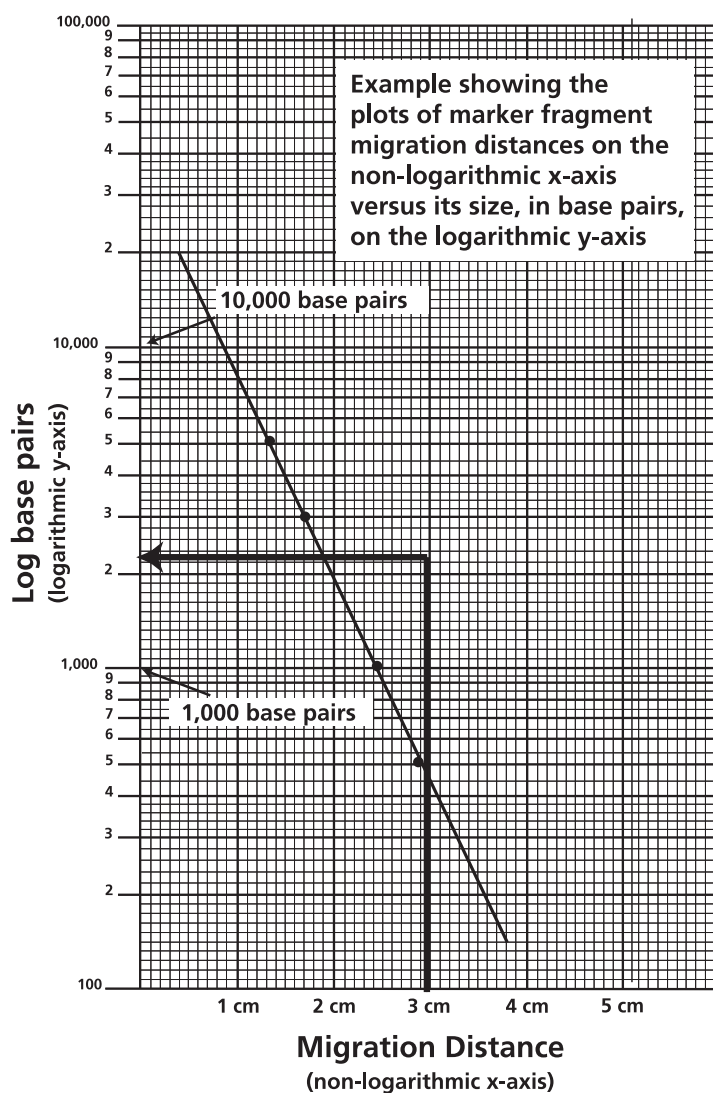

Figure 9:
After all the points have been plotted, use a ruler or a straight edge to draw the best straight line possible through the points. The line should have approximately equal numbers of points scattered on each side of the line. It is okay if the line runs through some points (see Figure 9 for an example).
- From the point of intersection, draw a second line, this time horizontally, toward the y-axis. The value at which this line intersects the y-axis represents the approximate size of the fragment in base pairs (refer to Figure 9 for an example). Make note of this in your lab notebook.